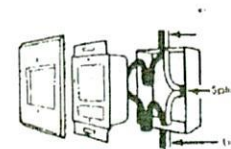

Fig. 2
- 3) Connect the new wall control as in Figure 2. Connect the white striped black wire to the black wire from the house. Connect the other black wire from the switch to the remaining black wire leading to the fan (J Box).